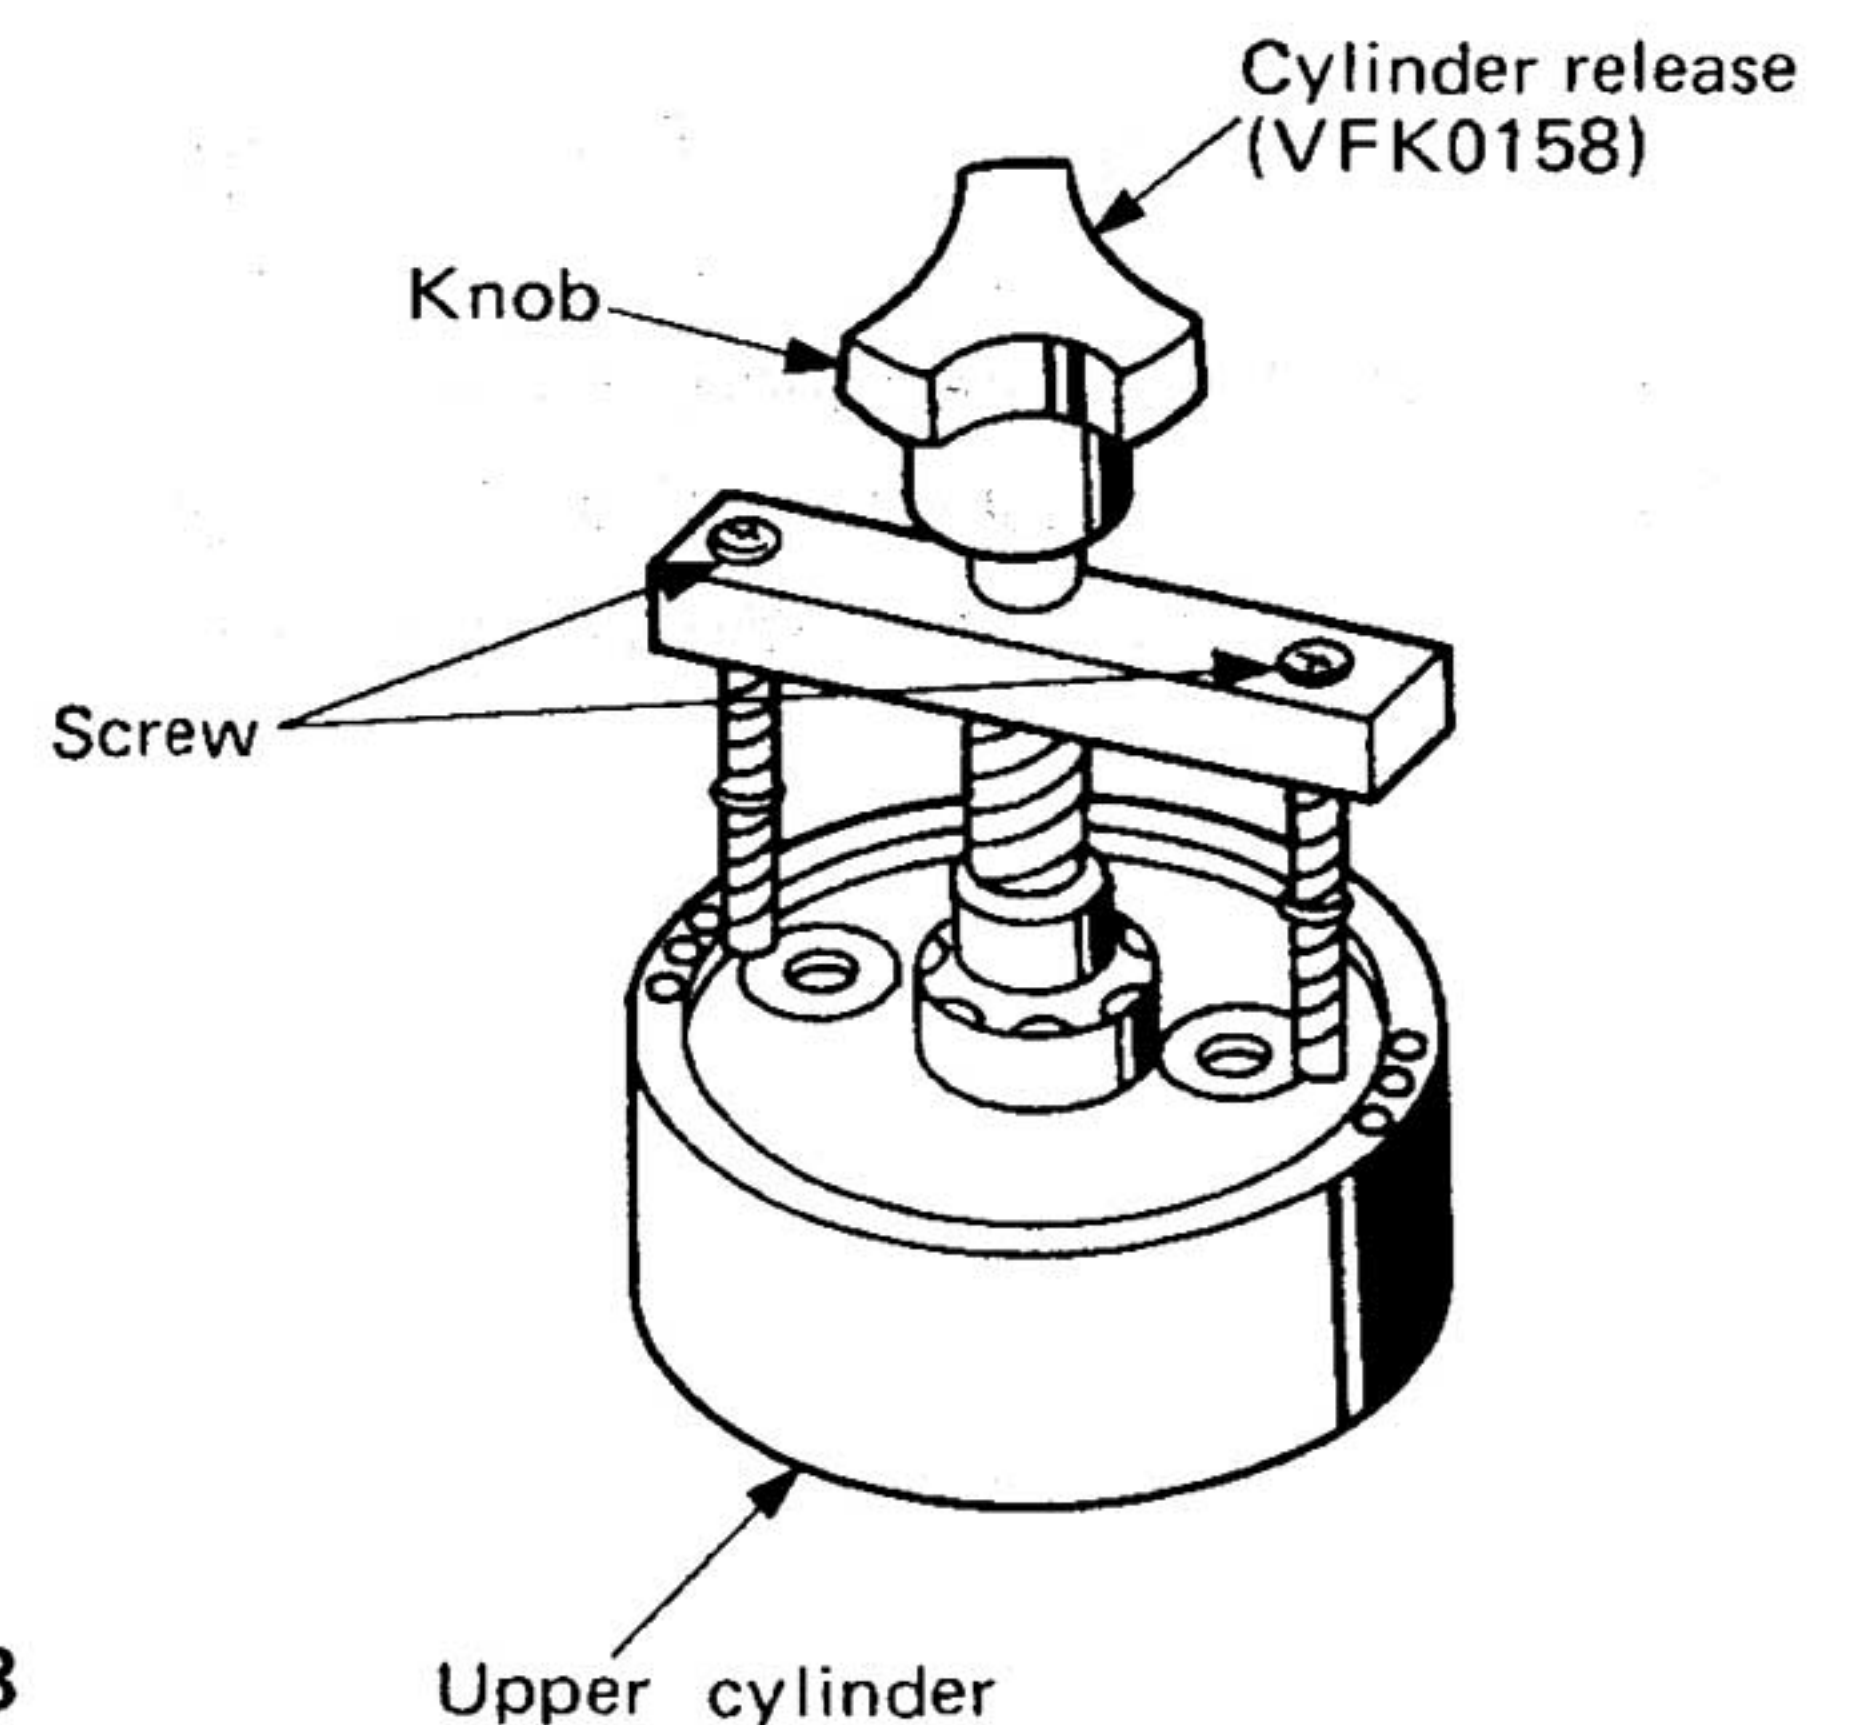

Fig. 23
7. The upper cylinder can be removed by turning the head cylinder release knob clockwise. (See Fig. 23)